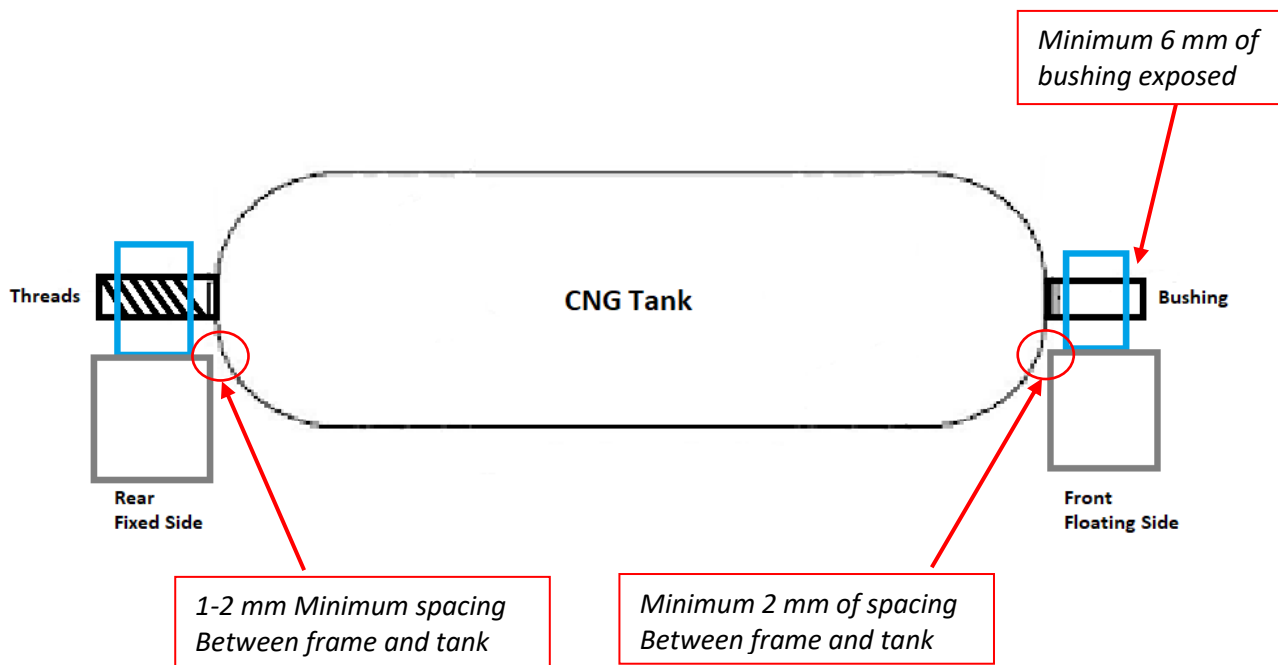

Figure 14 - For a Full Cylinder - Full Expansion Diagram
- Retighten the CNG lines and fill the tank. Recheck the Full Expansion clearances, referring to Figure 14 on Page 11.